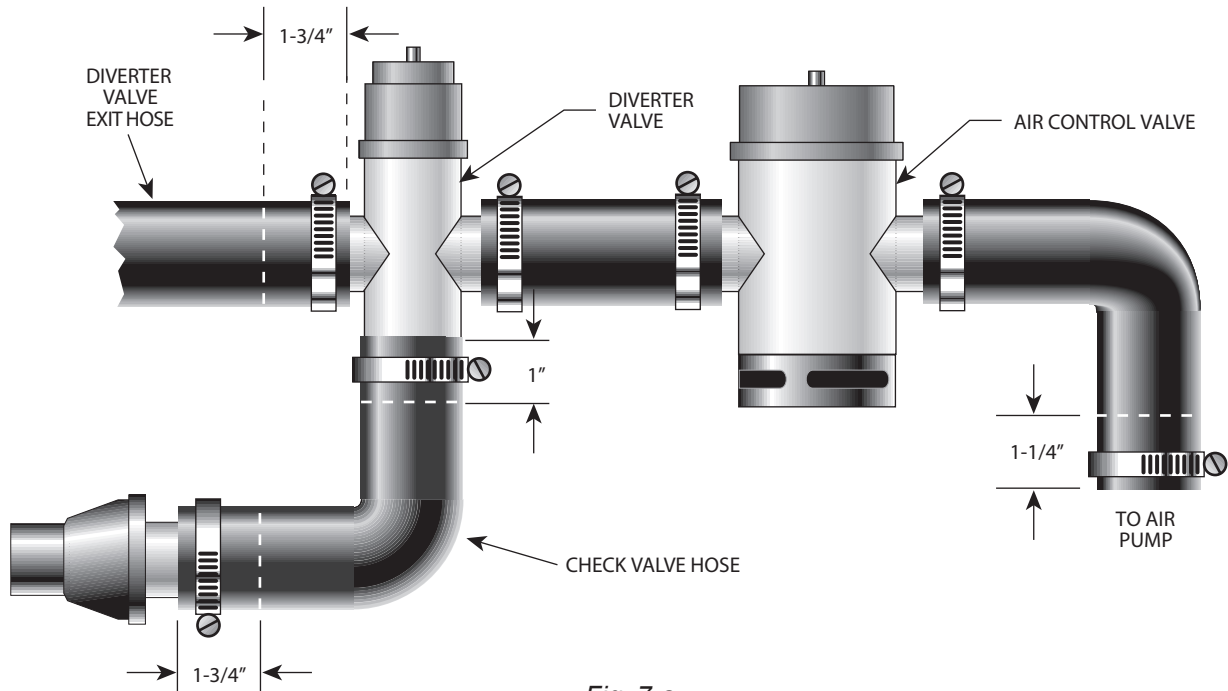

Fig. 7-a
- A. Separate the check valve hose and exit hose from the diverter valve. (See Fig. 7-a.)